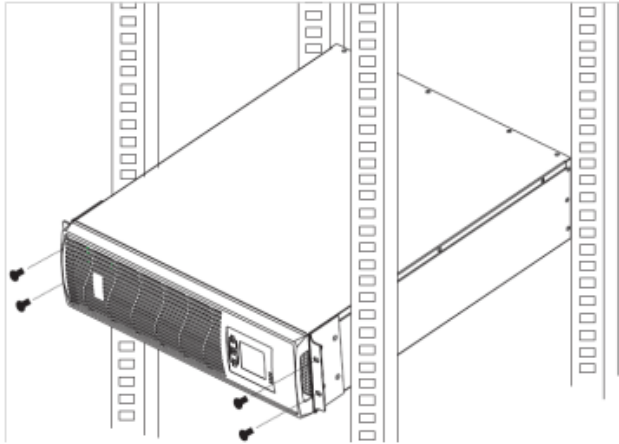

Fig.2-5 Installing UPS
2. Place the UPS onto the guide rail in the rack, and push it completely into the rack along the guide rail (it is prohibited to move the UPS through the brackets). And fix the UPS onto the rack using the screws through installation hole on the bracket, as shown in Fig.2-5.